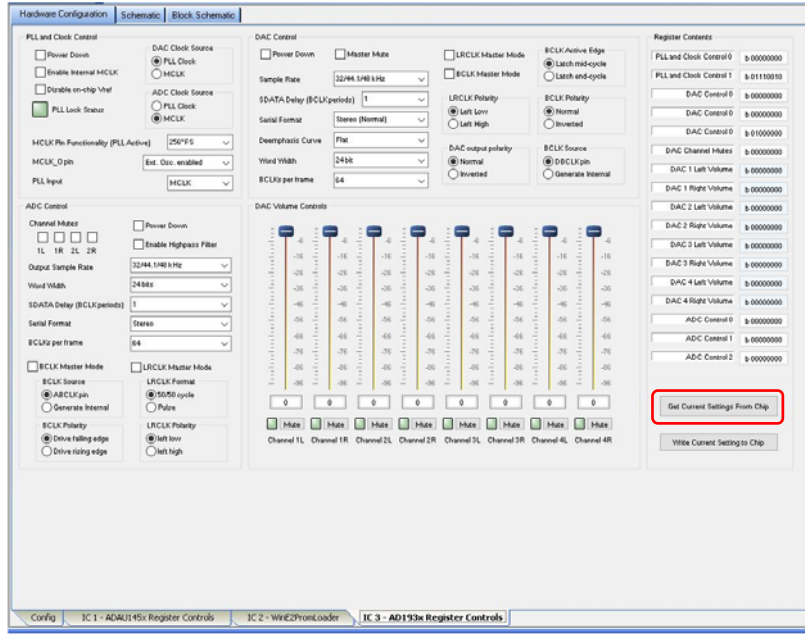

Figure 83. SigmaStudio Downloading the Current Codec Settings, Register Dump
After the user sets the registers as desired for the codec, the **Get Current Setting from Chip** button (see Figure 83) can be used to read the registers to the **Capture** window (see Figure 84) to be copied and exported. Use the following procedure to read the registers to the **Capture** window:
2. In the **IC 1 - AD193x Register Controls** tab, click the **Get Current Setting from Chip** button (see Figure 83). Clicking this button performs a register dump of all current codec settings and the register settings are then displayed in the **Capture** window and register control window.